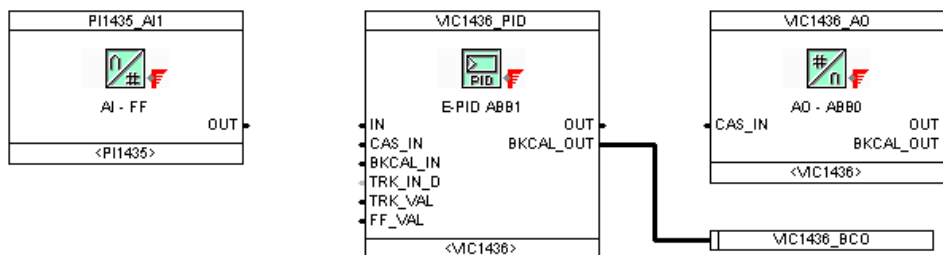

Figure 169. FF Signals
- b. An empty signal box is displayed where the signal can be entered directly (refer to Figure 169).